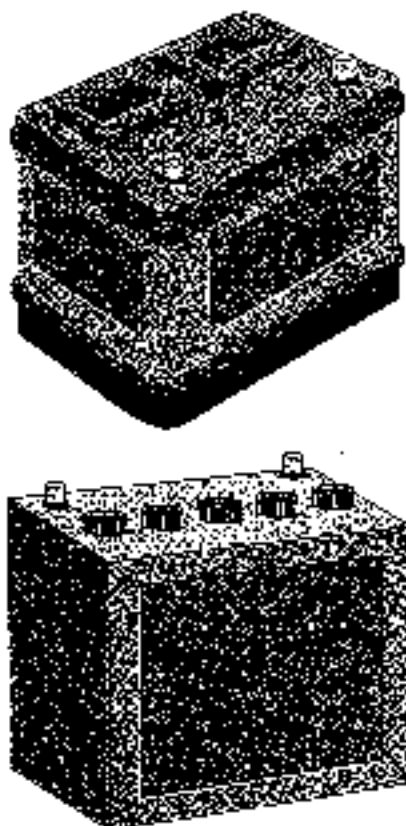

Figure 3-5:
1. **If you have a battery with removable caps or bars on top, remove them.** (See Figure 3-5.)